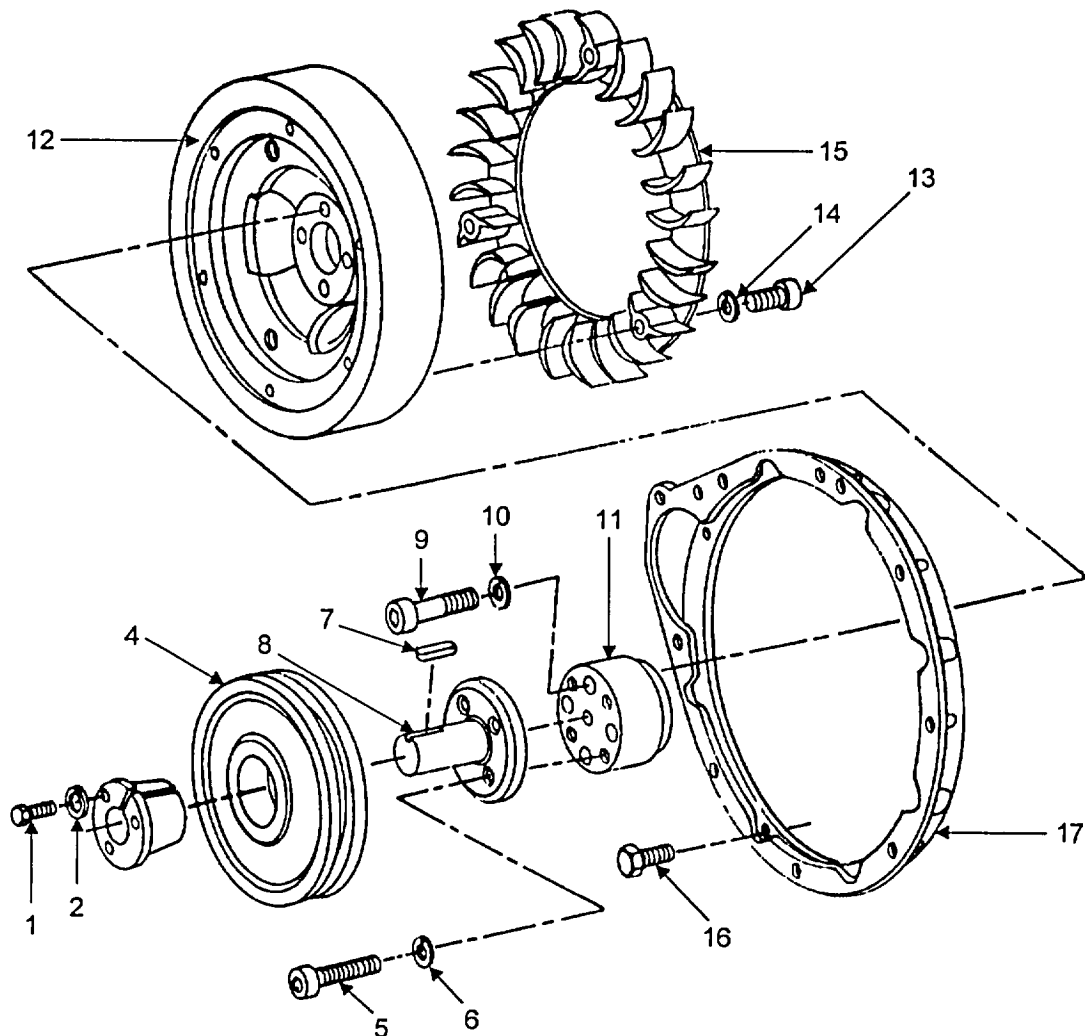

FIGURE 5-1. ENGINE FLYWHEEL/IMPELLER ASSEMBLY
- a. Remove three hex head cap screws (Figure 5-1, Item 1) and lock washers (2) from split taper bushing (3).
- b. Remove bushing (3) and groove pulley (4).
- c. Remove four socket head cap screws (5) and washers (6) from the stub shaft (8).
- d. Remove stub shaft (8). Be sure not to misplace stub shaft key (7).
- e. Remove socket head screws (9) that go through the retainer (11) into the crank shaft.
- f. Slide flywheel (12) and impeller (15) off the crankshaft as a unit
- g. Remove three screws (13) and six lock washers (14).
- h. Separate impeller (15) from flywheel (12).
e. Torque cap screws (Figure 5-1, Items 5 and 9) to 51.6 lb.-ft (70 Nm) and cap screws (13) to 22.13 lb.-ft (30 Nm).